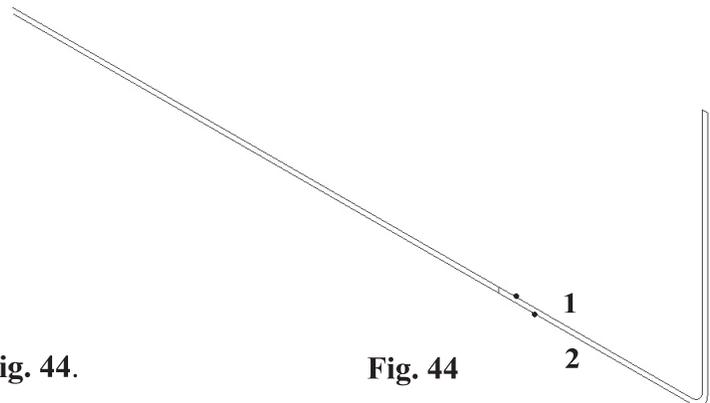

Fig. 44
Step 6. Click Position 1 on the L-bracket, **Fig. 44**.
Step 7. Click Position 2 on the L-bracket, **Fig. 44**. Use **F3** repaint if the line disappears.